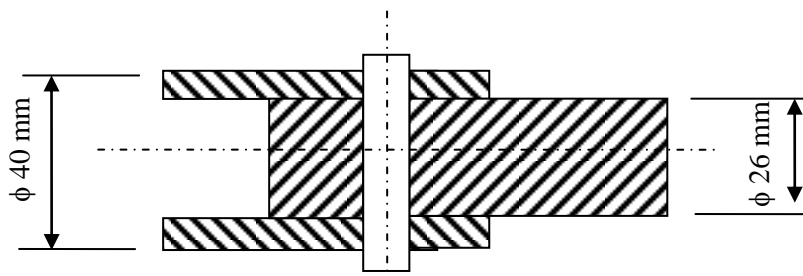

Fig Q7
7. A drive shaft comprises a solid steel shaft of 26 mm diameter which is a sliding fit in a hollow shaft of outside diameter 40 mm. The two shafts are connected by a shear pin as shown in Fig Q7. The torsional shear stress in the solid shaft is not to exceed 30 MN/m^2 , whilst the pin material will shear at a stress of 70 MN/m^2 .